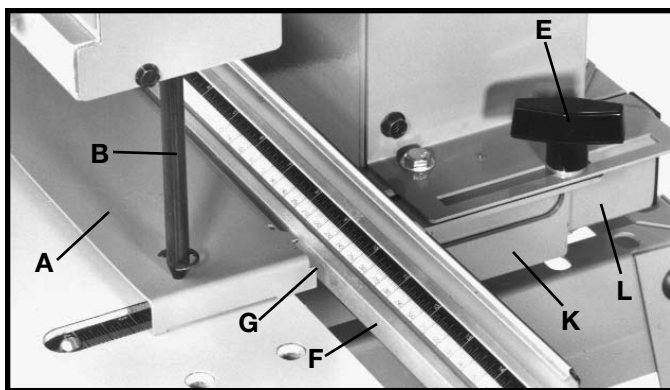

Fig. 18
4. With index pins (B) Fig. 18, engaged with holes in gage (A), loosen table lock knobs, one of which is shown at (E), and move table until front end of fence (F) is approximately 1/32" away from gage at point (G) on each end of the gage. Then tighten the table lock knobs (E).
5. Using a small "C" clamp (not supplied), secure table bracket (K) Fig. 18, to machine frame (L) at a point between the two sides to avoid movement. Clamp the other table bracket to the machine frame in the same manner at the other side of the machine.
1. Remove the gage (A) Fig. 18. The points of the index pins (B) Fig. 18, should point to the 2-1/4" mark on both scales.